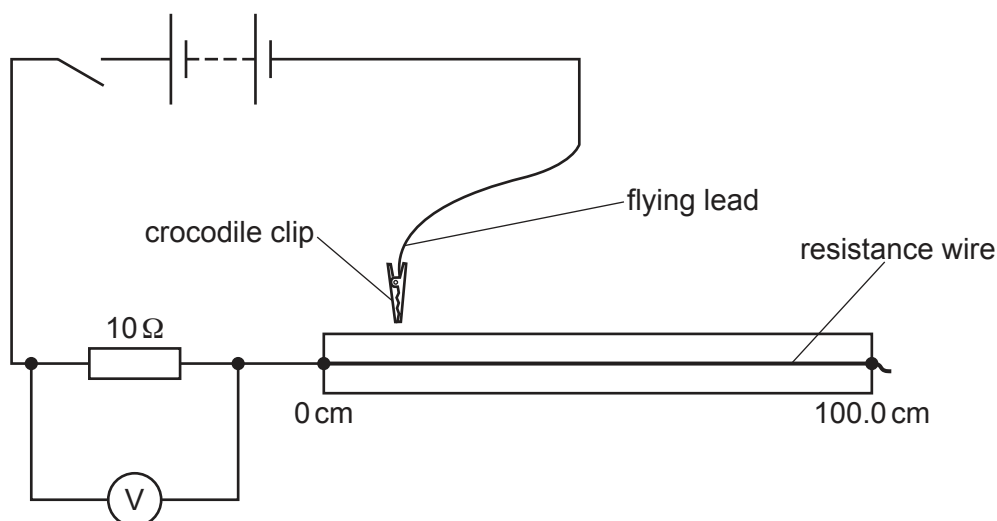

Fig. 2.1
2. The supervisor should use the connecting leads to assemble the circuit shown in Fig. 2.1. The flying lead should have a crocodile clip at the end. Candidates must be told **not** to leave the crocodile clip attached to the resistance wire.
The supervisor must check that the circuit is in the configuration shown in Fig. 2.1 with the switch open and the crocodile clip detached from the resistance wire. If cells are used, they should be checked and replaced, if necessary.